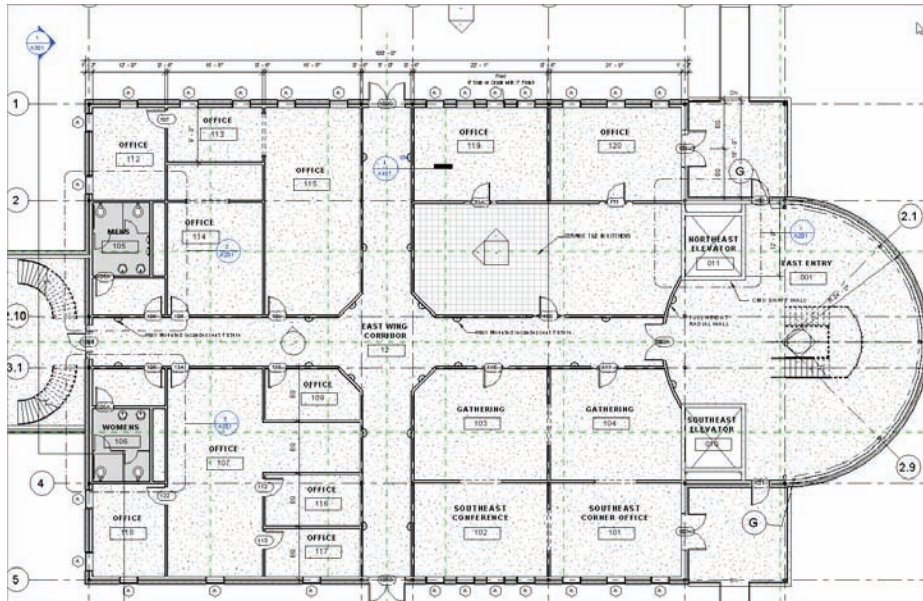

FIGURE 15.6 Adding rooms to the remainder of the spaces
6. Add rooms to the rest of the vacant areas, renaming them all OFFICE. (Skip the kitchen area and the room to the right of it, as shown in Figure 15.6).